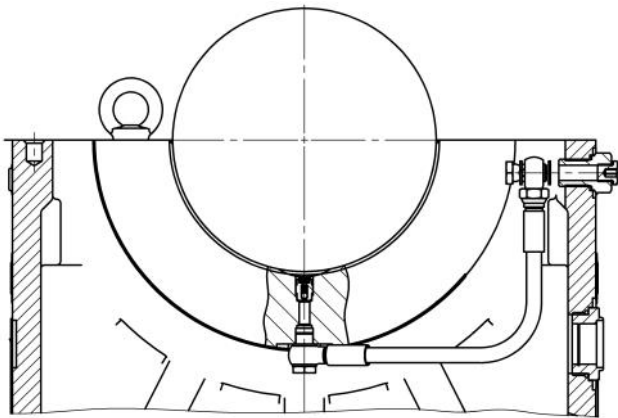

Fig. 61
- After having disassembled the upper part of bearing shell, the fitting of hose at housing side can be loosened (Fig. 61).